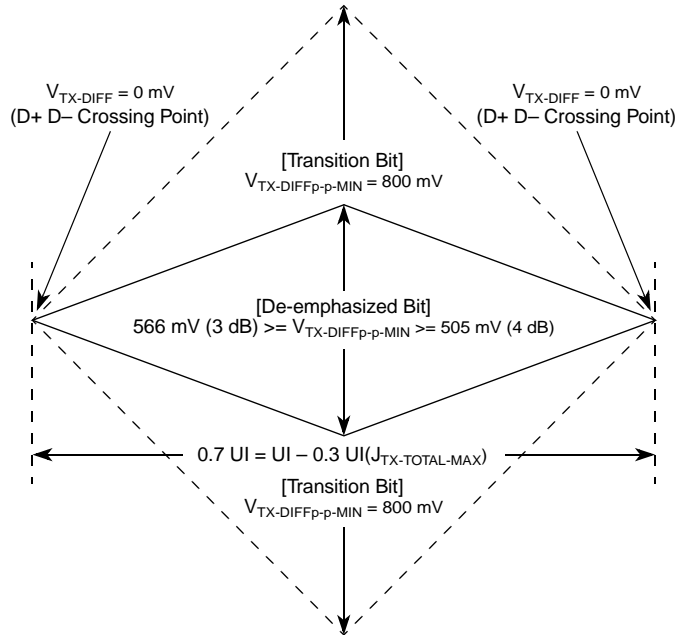
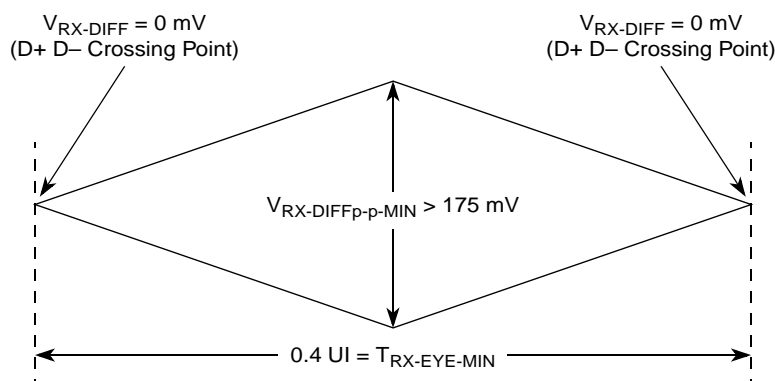
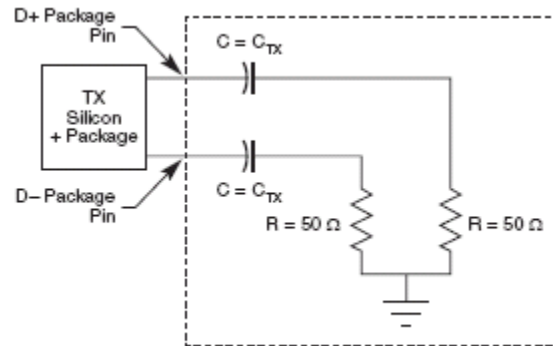

Figure 50. Minimum Transmitter Timing and Voltage Output Compliance Specifications
Figure 51. Minimum Receiver Eye Timing and Voltage Compliance Specification
Figure 52. Compliance Test/Measurement Load
2. Specified at the measurement point into a timing and voltage compliance test load as shown in Figure 52 and measured over any 250 consecutive TX UIs. (Also refer to the transmitter compliance eye diagram shown in Figure 50.)
4. The transmitter input impedance shall result in a differential return loss greater than or equal to 12 dB and a common mode return loss greater than or equal to 6 dB over a frequency range of 50 MHz to 1.25 GHz. This input impedance requirement applies to all valid input levels. The reference impedance for return loss measurements is 50 Ω to ground for both the D+ and D- line (that is, as measured by a vector network analyzer with 50- Ω probes, see Figure 52). Note that the series capacitors, C_{TX} , is optional for the return loss measurement.
5. Measured between 20%–80% at transmitter package pins into a test load as shown in Figure 52 for both V_{TX-D+} and V_{TX-D-} .
The TX eye diagram in Figure 50 is specified using the passive compliance/test measurement load (see Figure 52) in place of any real PCI Express interconnect + RX component. There are two eye diagrams that must be met for the transmitter. Both diagrams must be aligned in time using the jitter median to locate the center of the eye diagram. The different eye diagrams differ in voltage depending on whether it is a transition bit or a de-emphasized bit. The exact reduced voltage level of the de-emphasized bit is always relative to the transition bit.
- Specified at the measurement point and measured over any 250 consecutive UIs. The test load in Figure 52 should be used as the RX device when taking measurements (also refer to the receiver compliance eye diagram shown in Figure 51). If the clocks to the RX and TX are not derived from the same reference clock, the TX UI recovered from 3500 consecutive UI must be used as a reference for the eye diagram.
- The receiver input impedance shall result in a differential return loss greater than or equal to 15 dB with the D+ line biased to 300 mV and the D- line biased to -300 mV and a common mode return loss greater than or equal to 6 dB (no bias required) over a frequency range of 50 MHz to 1.25 GHz. This input impedance requirement applies to all valid input levels. The reference impedance for return loss measurements for is 50Ω to ground for both the D+ and D- line (that is, as measured by a vector network analyzer with $50\text{-}\Omega$ probes, see Figure 52). Note that the series capacitors, C_{TX} , is optional for the return loss measurement.
The RX eye diagram in Figure 51 is specified using the passive compliance/test measurement load (see Figure 52) in place of any real PCI Express RX component. In general, the minimum receiver eye diagram measured with the compliance/test measurement load (see Figure 52) is larger than the minimum receiver eye diagram measured over a range of systems at the input receiver of any real PCI Express component. The degraded eye diagram at the input Receiver is due to traces internal to the package as well as silicon parasitic characteristics which cause the real PCI Express component to vary in impedance from the compliance/test measurement load. The input receiver eye diagram is implementation specific and is not specified. RX component designer should provide additional margin to adequately compensate for the degraded minimum Receiver eye diagram (shown in Figure 51) expected at the input receiver based on an adequate combination of system simulations and the return loss measured looking into the RX package and silicon. The RX eye diagram must be aligned in time using the jitter median to locate the center of the eye diagram.
The reference impedance for return loss measurements is $50\ \Omega$ to ground for both the D+ and D- line (that is, as measured by a Vector Network Analyzer with $50\ \Omega$ probes—see Figure 52). Note that the series capacitors, $C_{PEACCTX}$, are optional for the return loss measurement.
The AC timing and voltage parameters must be verified at the measurement point, as specified within 0.2 inches of the package pins, into a test/measurement load shown in Figure 52.